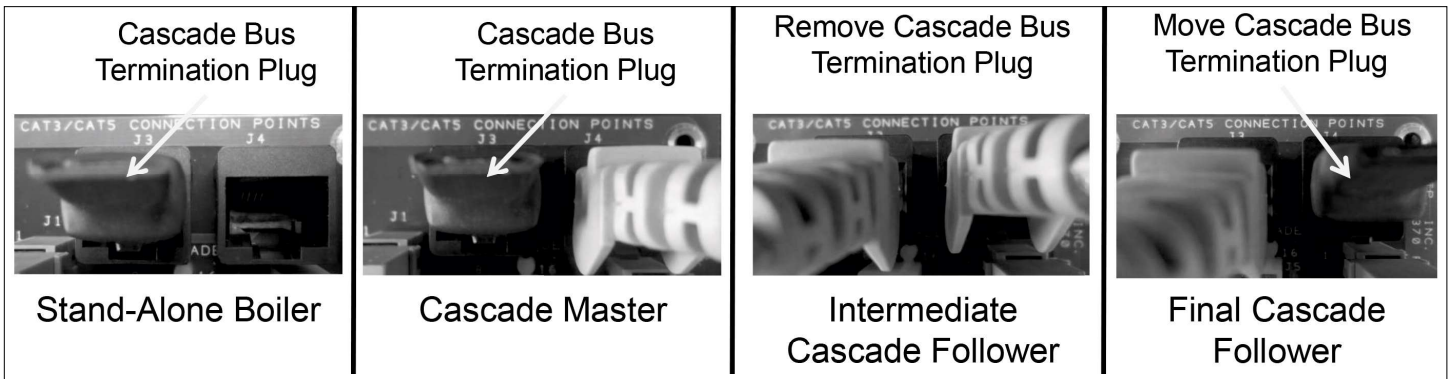

Figure 39 - Cascade Termination Plug Detail
1. A Cascade Bus Termination Plug has been installed on the customer connection board of this boiler. The purpose of this plug is to stabilize communication between multiple boilers and reduce electrical "noise". See Figure 39 for Cascade Bus Termination Plug installation detail.
NOTE: It is important that the termination plug in multiple boilers (cascaded units) be installed as depicted in Figure 39. Leave the plug installed in the J6 port on the Master boiler. Remove the plug on intermediate Follower boilers. Move the plug to the J7 port on the final Follower boiler.
NOTE: All termination plugs must be installed as described in Figure 39 to ensure proper cascade operation.